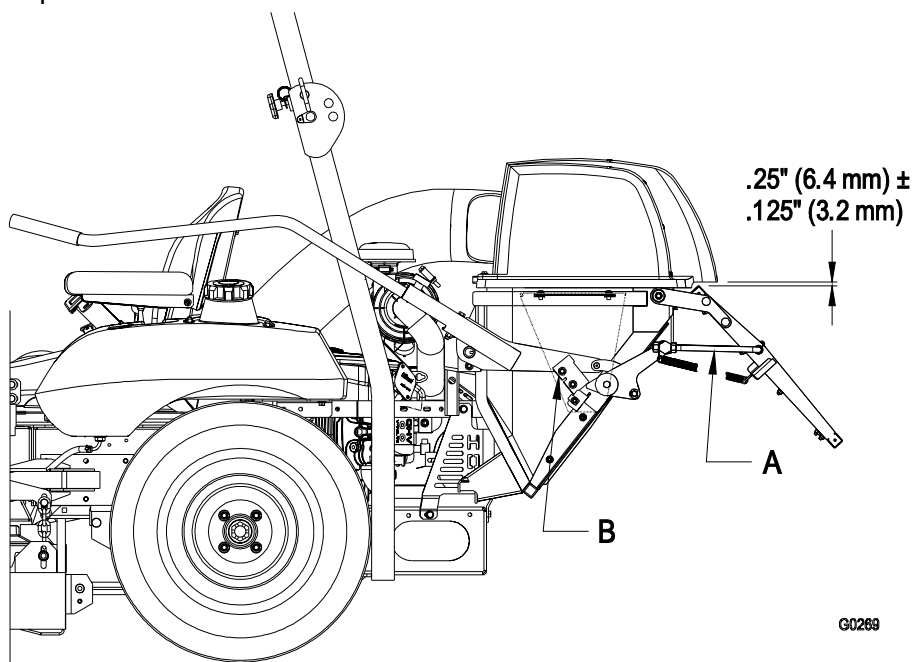

FIGURE 7
- 4.2.2 **Door closing:** The closing of the door is controlled by the two hinge links (Figure 7 – A). The length of the hinge links can be changed to provide complete closing of the door and reasonable force on the handle to latch or unlatch the door. Lengthen the links to reduce the force. Shorten the links to increase the force. The left and right sides must be approximately equal. With the door closed, both links should be slightly tight to minimize rattling.
- 4.2.3 **Door opening:** After adjusting the hinge links for door closing, the hinge stops (Figure 7 – B) can be adjusted to obtain maximum door opening. The stop plates should be adjusted so that the door link contacts them when the upper tube of the door frame is within $.25'' (6.4 \text{ mm}) \pm .125'' (3.2 \text{ mm})$ from the lower lip of the molded hood. Both left and right stops must make contact when the door link arm is at this position.